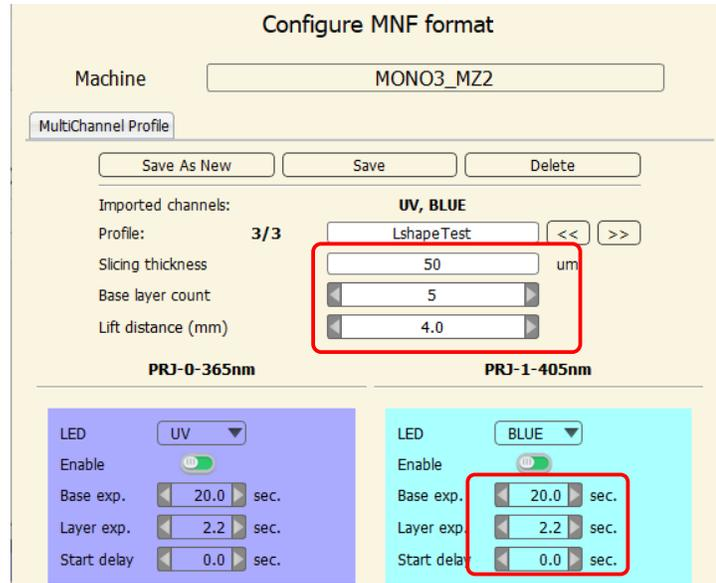

Fig. 29. Import of the L-shape alignment pattern
- Then press the 'MNF export' button and you can configure slicing parameters (**Fig. 29**).